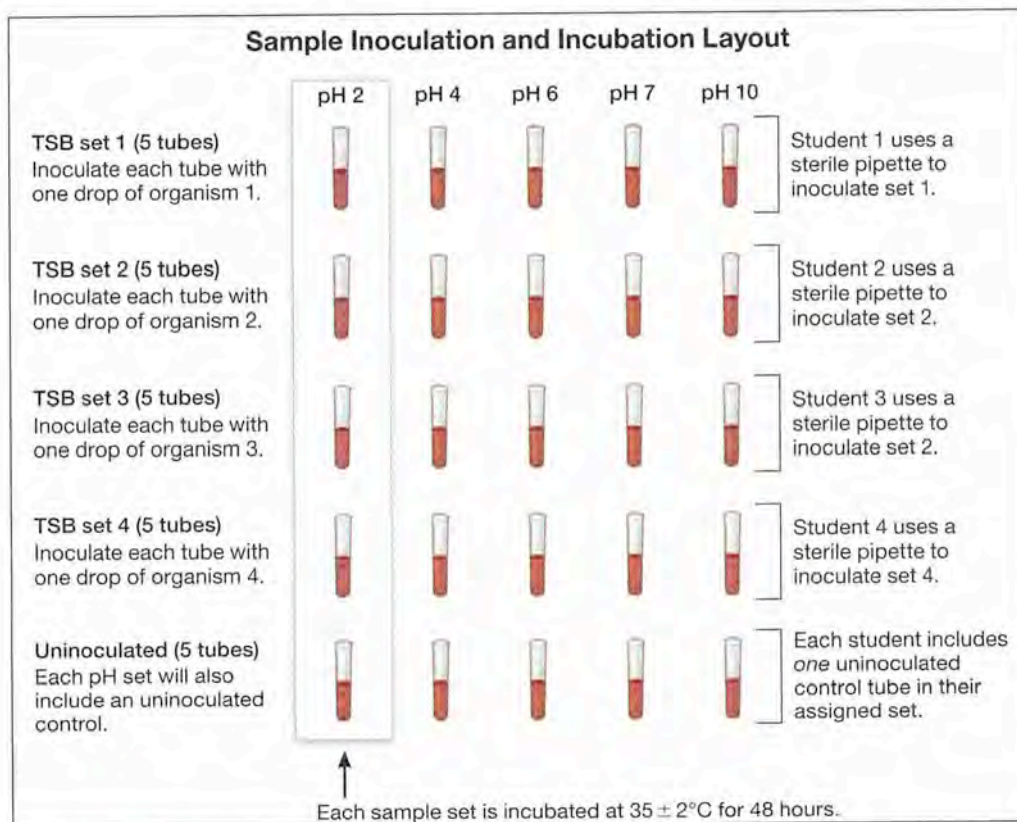

FIGURE 21.2 Broth Sample Organization and Inoculation Process •
- 2 Label Your Tubes:** Label your tubes so that you have designated one broth for each organism plus one tube for an uninoculated control at each pH level (Fig. 21.2). Each student should choose one or two stock cultures from the options your instructor provides to inoculate. Divide the work load with your lab partner(s) as evenly as possible.
- 3 Inoculate Your Media with the Designated Bacteria:** Mix each stock sample thoroughly, but be careful not to splash the culture into the tube cap. Then, using a sterile transfer pipette, inoculate each tube of media with 1 drop of organism (be consistent). Refer to Figure 21.2 for guidance on this. You may fill the pipette with about 1 mL of broth and deliver the drops with the same pipette to the tubes without flaming them. In your set of tubes, leave one tube uninoculated.